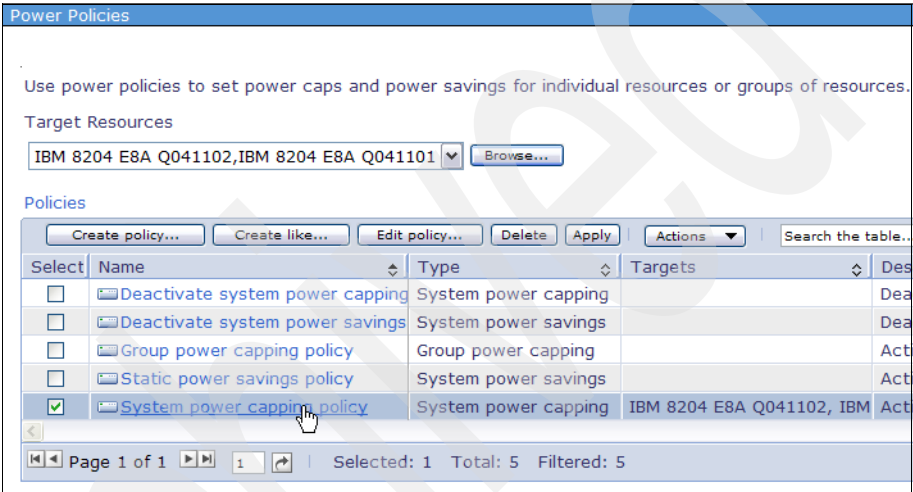

Figure 7-69 Removing a policy - 1
2. In the display shown in Figure 7-69, click the policy that you want to remove from the target systems or groups.